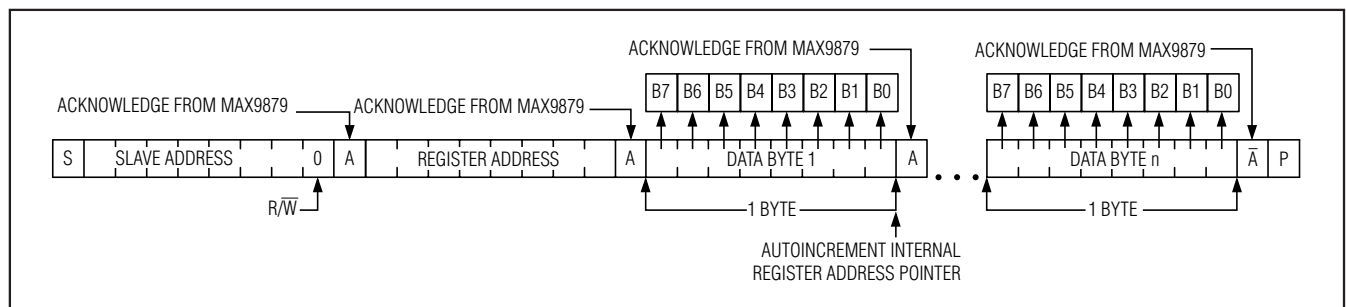

Figure 10. Writing  $n$  Bytes of Data to the MAX9879
MAX9879. Figure 10 illustrates the frame format for writing  $n$  bytes of data to the MAX9879.
The third byte sent to the MAX9879 contains the data that is written to the chosen register. An acknowledge pulse from the MAX9879 signals receipt of the data byte. The address pointer autoincrements to the next register address after each received data byte. This autoincrement feature allows a master to write to sequential registers within one continuous frame. Figure 10 illustrates how to write to multiple registers with one frame. The master signals the end of transmission by issuing a STOP (P) condition.